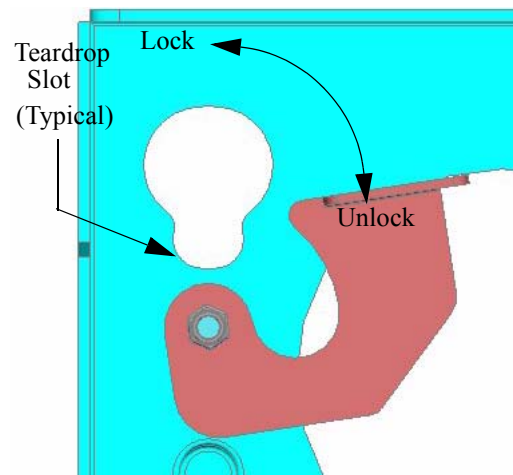

Figure 6. Locking Device
1. Make sure power is not supplied (turned off) to the display and the locking device is in the unlocked (down) position (see Figure 6) before attempting to mount the display.
4. Secure the mounting bracket to the MSP-LD by completely engaging the locking device (see Figure 6).
2. Release the locking device (see Figure 6).